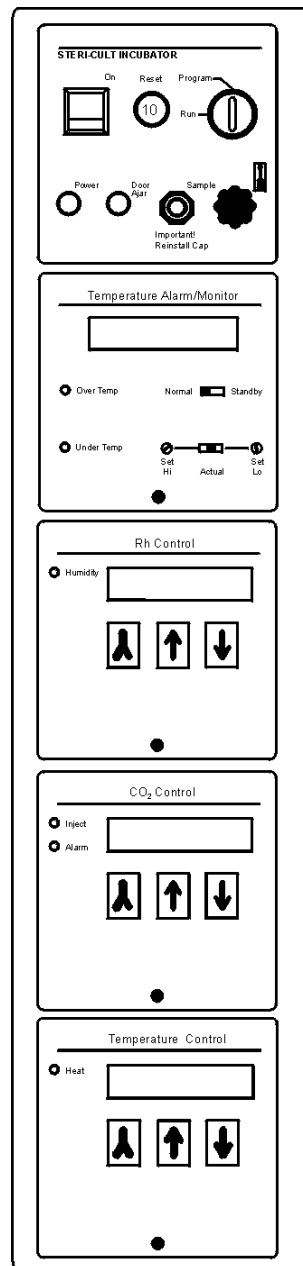

Figure 3-1
3.2 Power Control Panel (Figure 3-1)